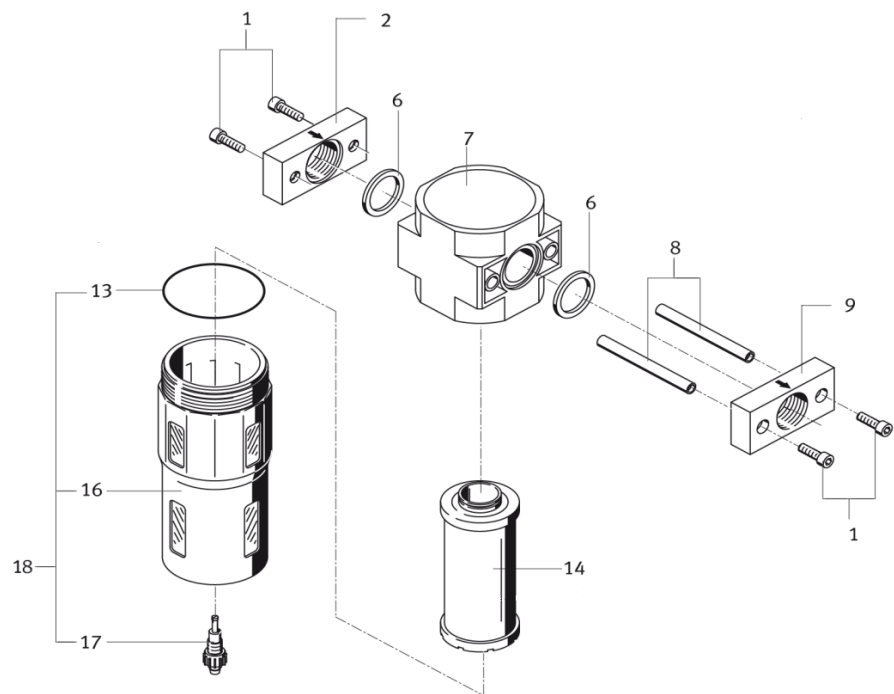

Fig. 5-8 From the manufacturer's manual
3. Unscrew the condensate collector (18, Fig. 5-8).
4. Replace the filter element (14) and screw the condensate collector back on.